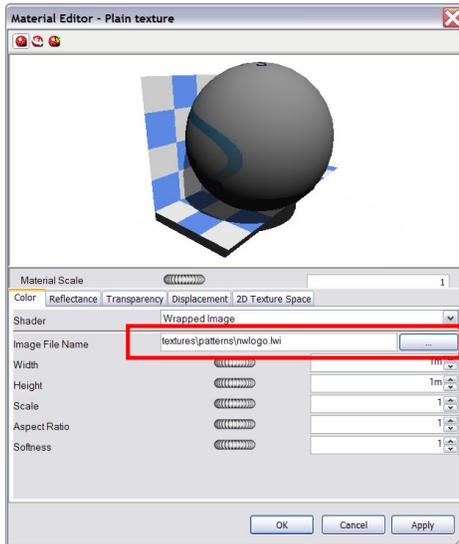
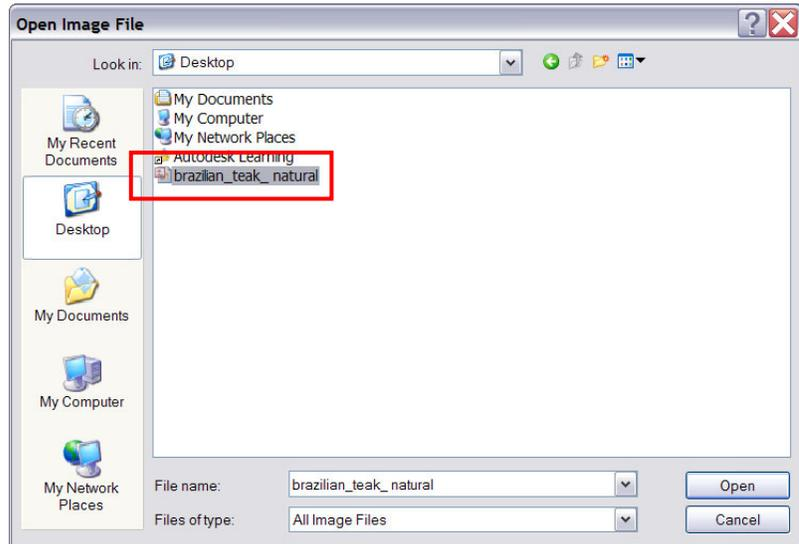

Figure 3
Figure 4
3. Double click the “Plain texture” material to view its material properties (Figure 3). In the Image File Name dialog browse and find the brazilian_teak_natural image file saved earlier (Figure 4).